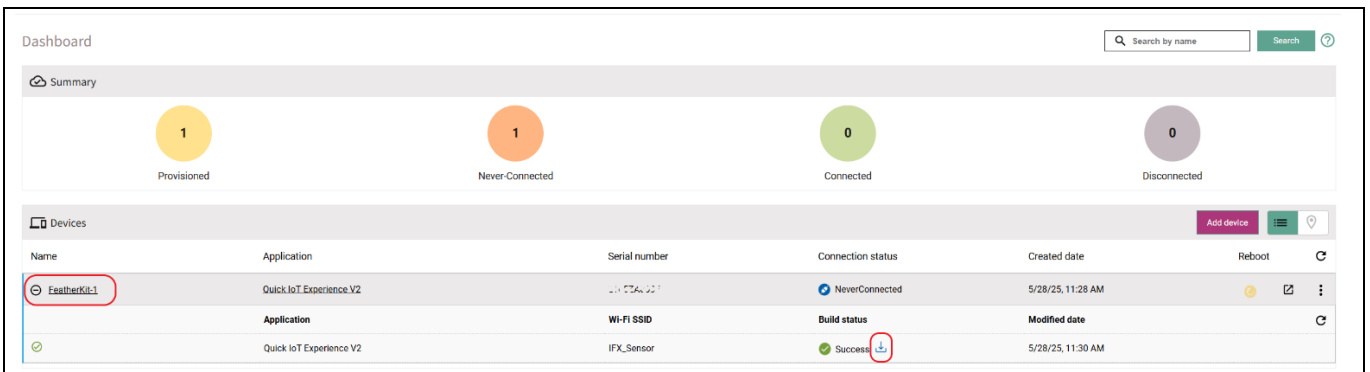

Figure 13 Device management dashboard
- After you click **Submit**, a custom *hex* file will be built for your device, and a software bundle will be generated for programming your development kit, as shown in Figure 13
Depending on your laptop or PC's operating system (Windows/Linux/Mac), you will receive a downloadable package that includes a *hex* file firmware image and a programming tool for your KIT_CSK_PASCO2 kit. The package will be in the form of a zip file. To view the detailed device status, click on the ⊕ (expand) button. To download the zip package, click ⬇️ (download) next to **Success** on the application as shown in Figure 13.